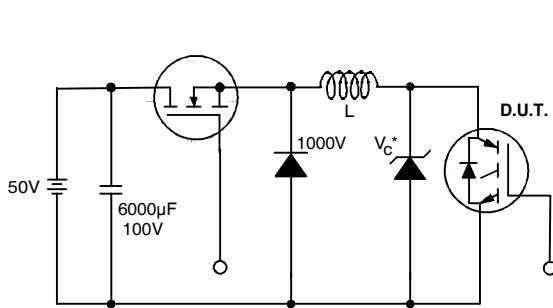

Figure 19. Clamped Inductive Load Test Circuit
- ② $V_{CC}=80\%(V_{CES})$, $V_{GE}=20V$, $L=10\mu H$, $R_G = 50\Omega$ (figure 19)
- ③ Pulse width $\leq 80\mu s$; duty factor $\leq 0.1\%$.
- ④ Pulse width 5.0 μs , single shot.